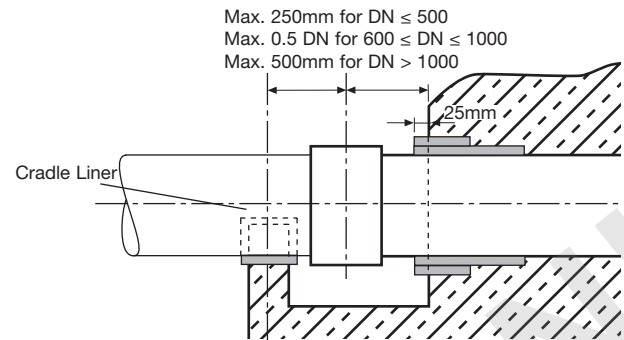
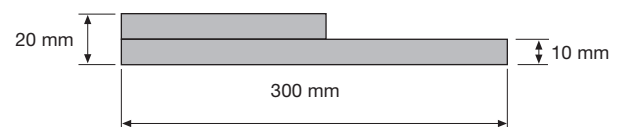

Figure 6-4 Alternate B: Rubber wraps
Figure 6-5 Rubber wrap configuration – Rubber shall be 50 Durometer
Where A is not possible, wrap (**Figure 6-4**) a band (or bands) of rubber (**Table 6-1 and Figure 6-5**) around the pipe prior to placement of any concrete such that the rubber slightly protrudes (25mm) from the concrete. Lay out the pipeline so the first completely exposed coupling joint is located as shown in **Figure 6-4**.
- 1 Position as shown in **Figures 6-4** and **6-5**.